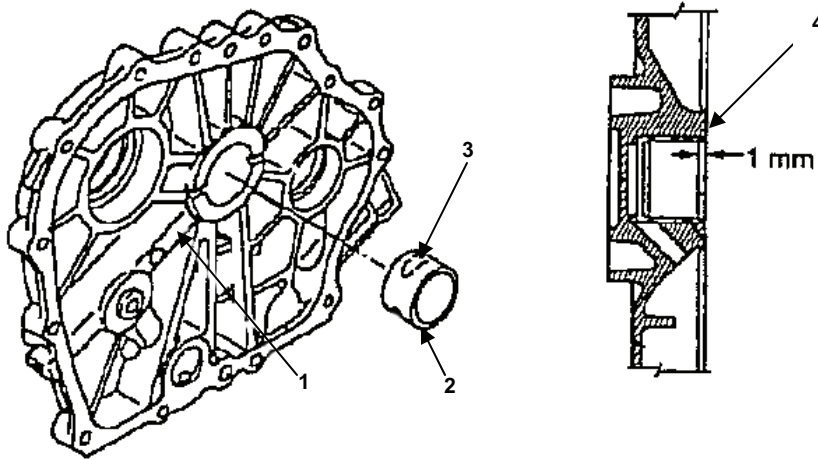

Figure 7. Crankshaft Bearing Installation.
2. Ensure the oil groove (Figure 7, item 3) is facing up and oil hole (Figure 7, item 2) on the bearing is lined up with the oil passage (Figure 7, item 1).
3. Ensure that the bearing is sunk 0.0394 inch (1 mm) below the face of the crankcase cover (Figure 7, item 4).